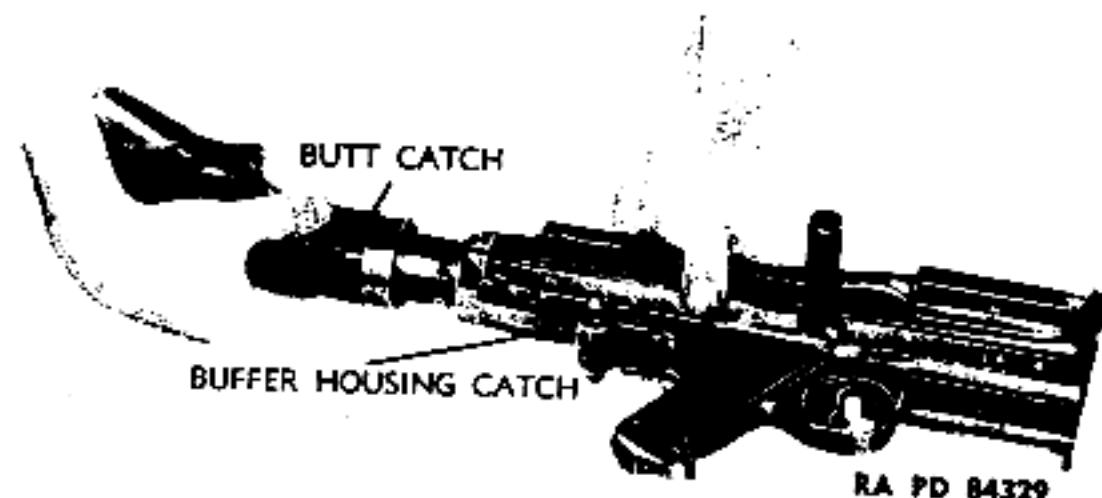

Figure 46 — German 7.9-mm Dual Purpose Machine Gun MG34 — Removal of Butt
a. Butt Stock. Press the butt catch below the butt, rotate the butt one quarter of a turn and remove it (fig. 46).